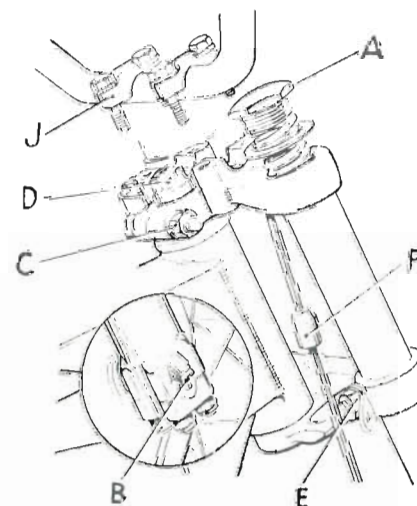

FIGURE 29.
The only servicing which the front forks require is renewal of the oil at regular intervals (see "Routine Lubrication", page 27). First release the handlebar clamps (J) and lift the handlebars off the yoke (FIG. 29).
Unscrew the nuts (A) FIG. 29, and the drain plugs in the lower end of the fork sliding members as shown at (B). Allow all the oil to drain out, then standing stride the machine, apply the front brake and depress the forks a few times to drive out any oil remaining in the system.
Slacken the clamping nut (C) FIG. 29, then gently tighten down the cap nut (D) below the handlebars until only a trace of play is present. Hold the handlebars lightly and move them round slowly. The steering must be free, and the forks must rotate smoothly. If the movement is harsh it is a sign that the adjustment is too tight or that the bearings are damaged. When the adjustment is correct, tighten the clamping nut (C). Recommended torque wrench settings are: cap nut (A), 50—55 lb. ft.; clamp bolts (E), 23—25 lb. ft.